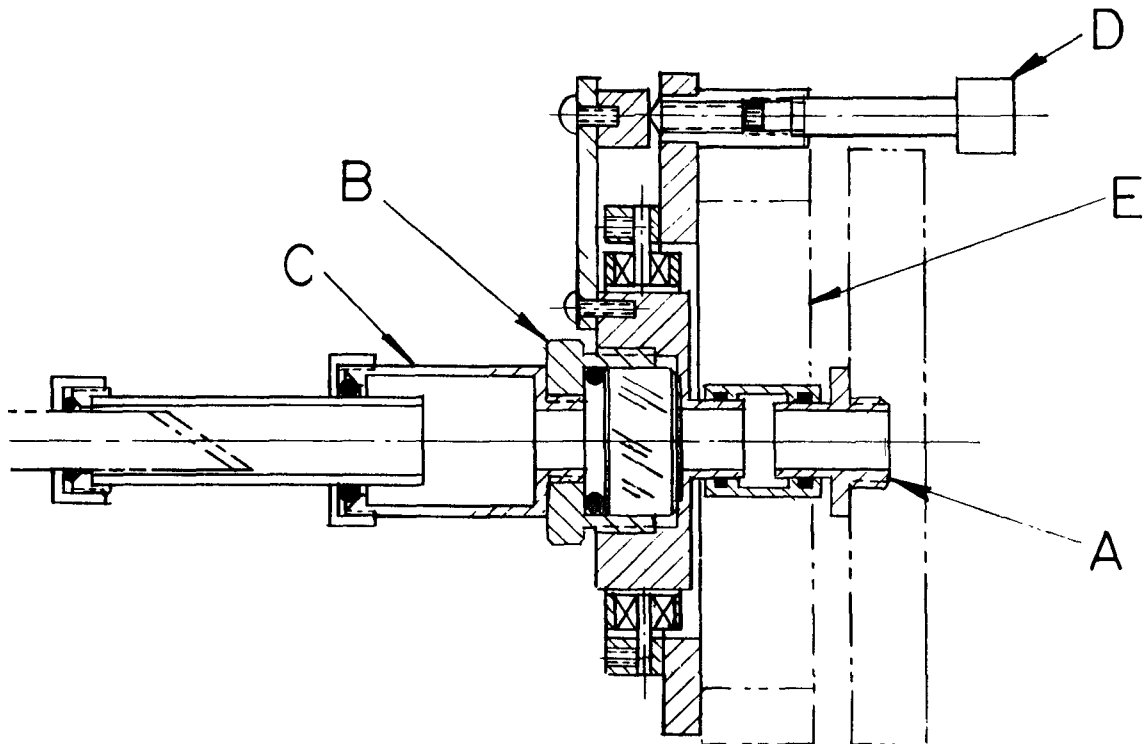

Figure 16
8.2.1a Installation (Refer to Figure 16)